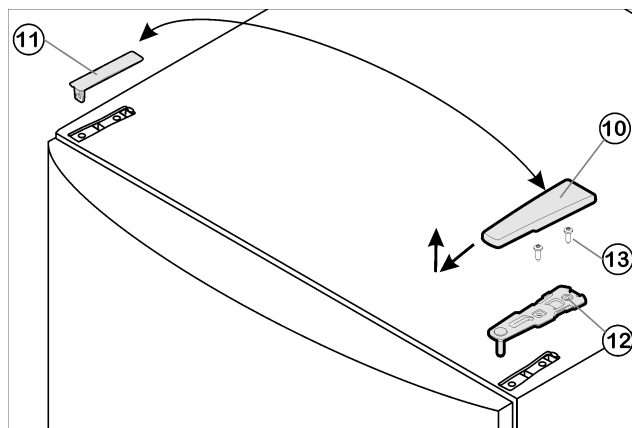

Fig. 4
- ▶ Pull off the cover Fig. 4 (10) forwards and upwards.
- ▶ Lift off the cover Fig. 4 (11).
- ▶ Unscrew the upper turn hinge Fig. 4 (12)(2x Torx® 25) Fig. 4 (13) and lift it off.
- ▶ Insert the upper turn hinge Fig. 4 (12) in the door on the new hinge side.
- ▶ Screw the upper turn hinge Fig. 4 (12) firmly into place (with 4 Nm) (2x Torx® 25) Fig. 4 (13). Possibly make preliminary holes with a bradawl or use a cordless screwdriver.
- ▶ Snap the cover Fig. 4 (10) and cover Fig. 4 (11) into place at the opposite side.